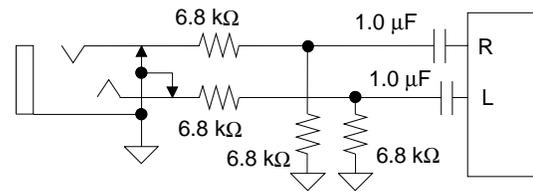

Figure 4. Line Inputs
The analog input mixer is designed to accommodate five stereo inputs and one mono input. These inputs are: a stereo line-level input (LINE), a mono microphone input (MIC), a stereo CD-ROM input (CD), a stereo auxiliary line-level input (AUX), and the PCM output from the DACs. Each of the stereo inputs has separate volume controls for each channel and one mute control for each left/right pair. The mono microphone input has one mute and one volume control. All analog inputs to the CS4297A, including CD_GND, should be capacitively coupled to the input pins. Since many analog levels can be as large as $2 V_{RMS}$, the circuit shown in Figure 4 can be used to attenuate the analog input by 6 dB (to $1 V_{RMS}$) which is the maximum voltage allowed for all the stereo line-level inputs.